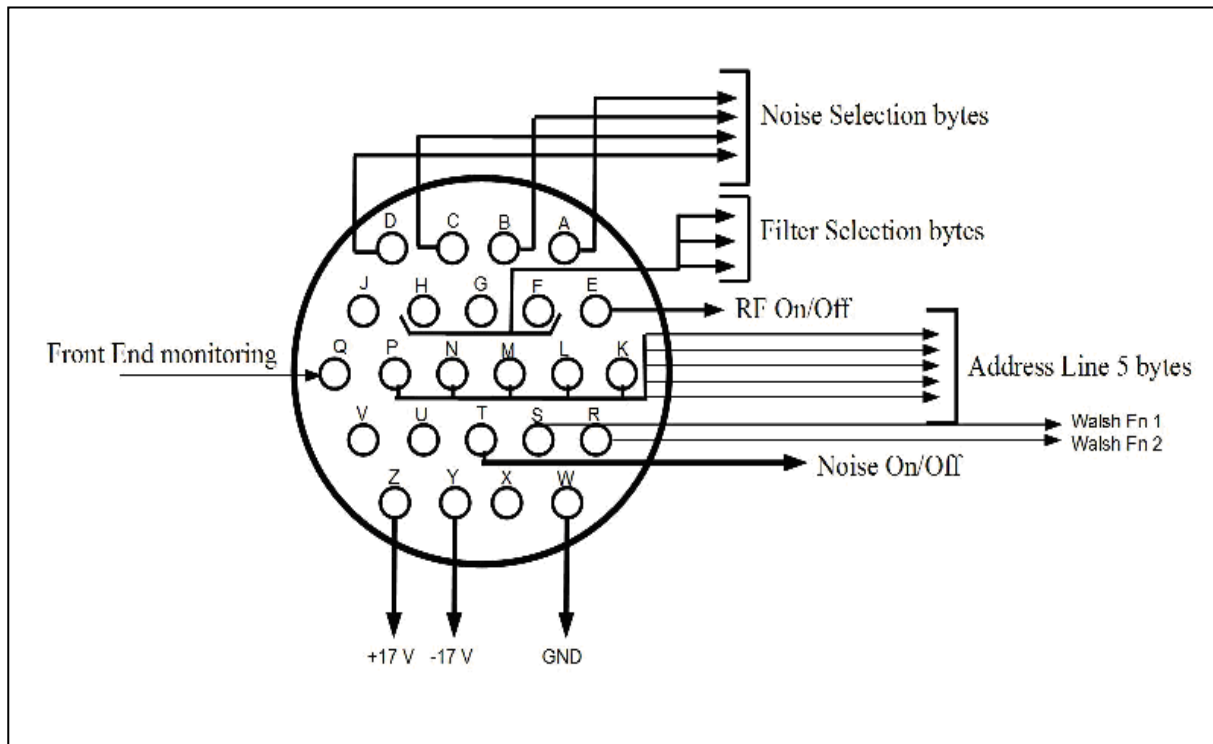

Fig. 8 Round Shell Connector Pin Configuration
11. Figure 8. Round Shell Connector Pin Configuration.....	Page 16